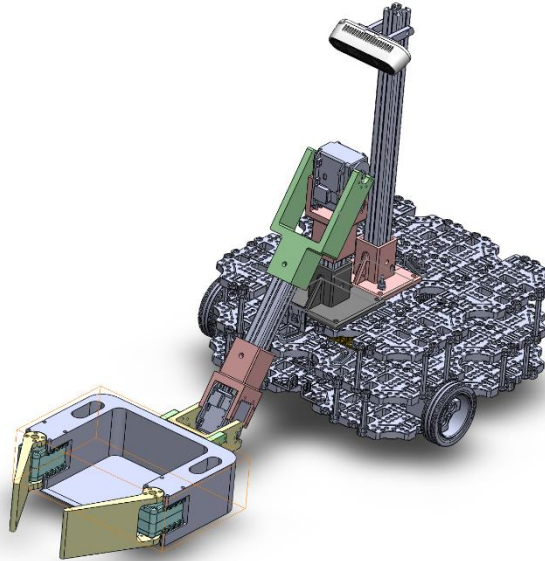

Figure 1 Complete System CAD drawing
**Manipulator:** I concluded 90% of the system mechanical assembly for this semester, , as shown in figures 1 and 2. I will be able to dedicate myself to other areas along with the team, while improving the mechanical design in parallel to that.